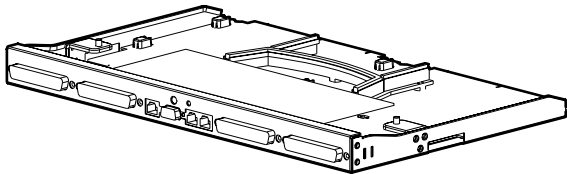

Figure 5. ProLiant BL e-Class RJ-21 Patch Panel
- ProLiant BL e-Class RJ-21 Patch Panel: The RJ-21 patch panel functions as an Ethernet pass-through only. It brings all server blade NIC signals out via four separate RJ-21 connectors. See Figure 5.